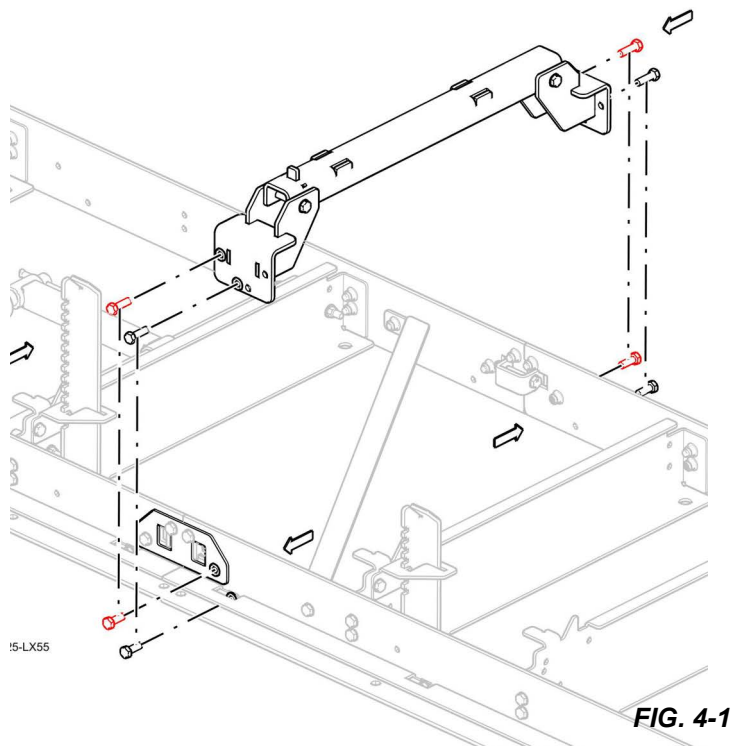

FIG. 4-1
3. Replace those (marked in red) from the plate that connects the first and the second bed section to longer one from kit, as shown in Section FIG. 4-1.